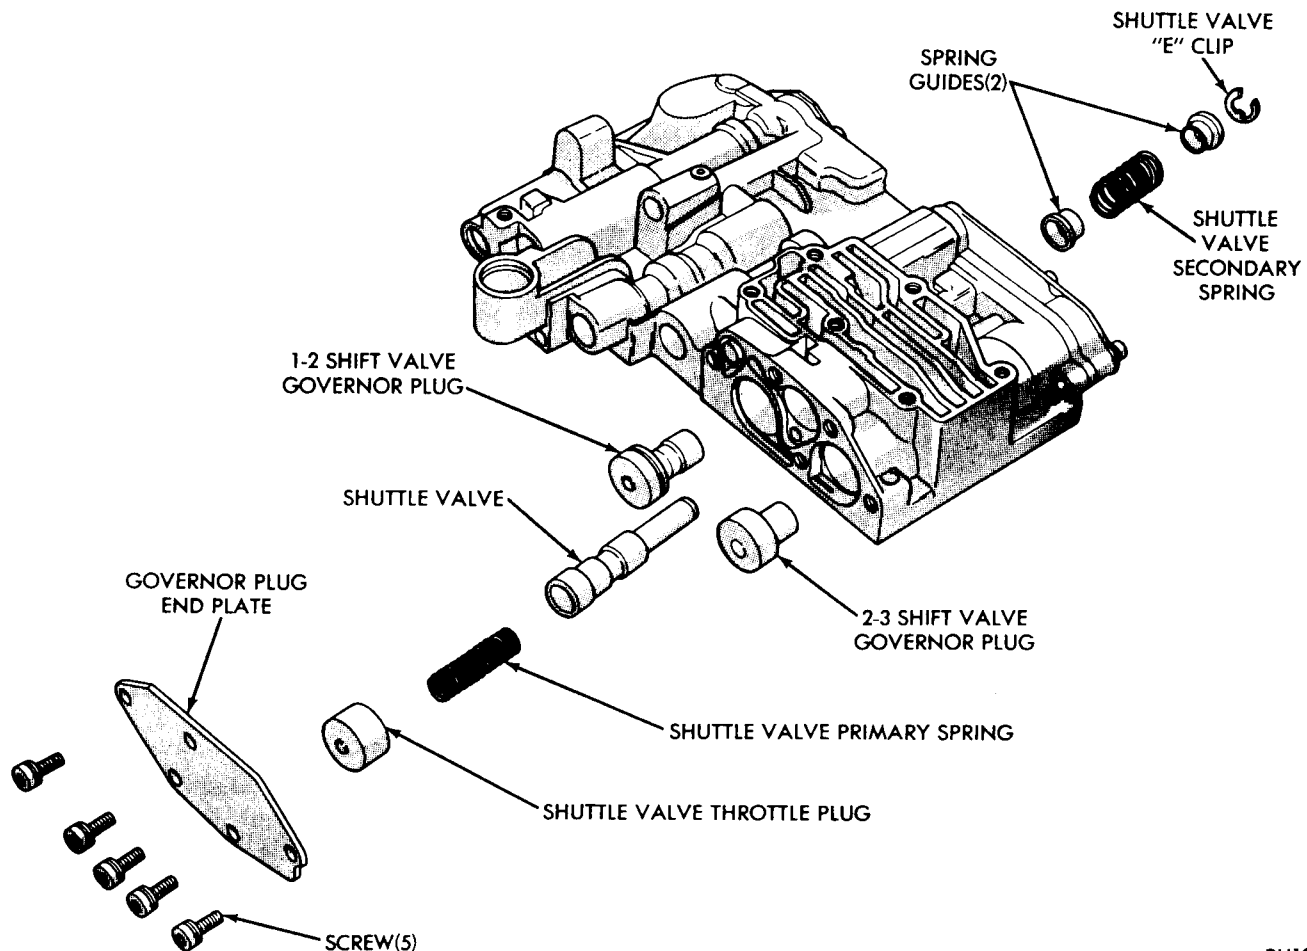

Fig. 6—Shuttle Valve and Governor Plugs
Shuttle Valve and Governor Plugs (Fig. 6)
- (1) Turn valve body over and remove shuttle valve cover plate.
- (2) Remove governor plug end plate (Fig. 6) and slide out the shuttle valve throttle plug and spring, the 1-2 shift valve governor plug and the 2-3 shift